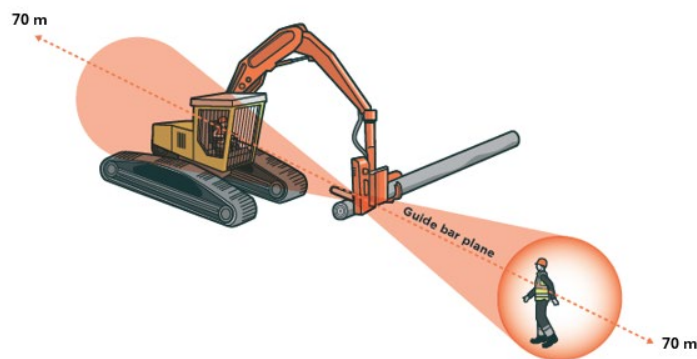

Figure 31: Minimum 70 metre exclusion zone to protect against chain shot injury
- If a mechanised processor is operating, make sure that there is at least a 70 m exclusion zone to protect against chain shot injury (Figure 31). Consider the angling and placement of the mechanised processor to manage risk.
- Have defined separation distances to protect ground workers from chain shot injury. Have a minimum 70 metre exclusion zone unless effective protective barriers are used (Figure 31).